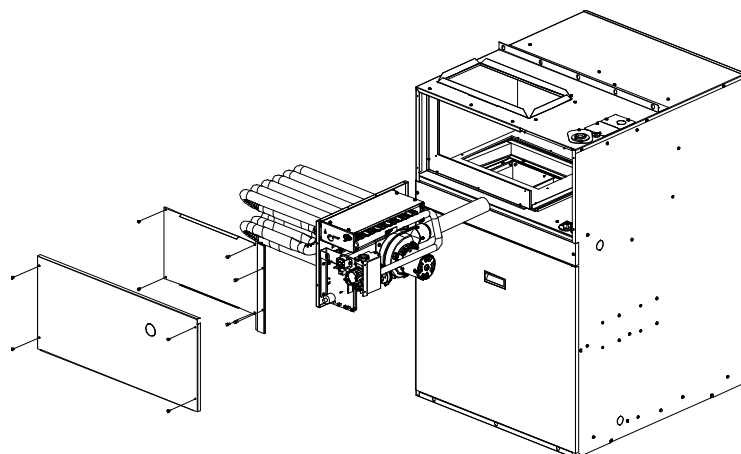

FIGURE 43 – Heating Access Panel Removal
- 2) Remove outer and inner heating access panels and the control access panel **FIGURE 43 – Heating Access Panel Removal**